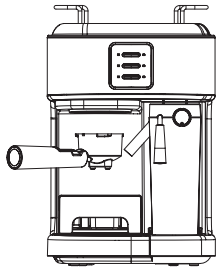
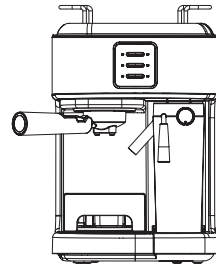

Рис. 3
Рис. 4
- **Attention! Before using the coffee maker for the first time remove the red rubber plug from the water tank (16).**
- Remove the water tank (16), fill it with cold water till the MAX mark and install it back to its place.
- Remove the milk tank (11), fill it with cold water till the MAX mark as well and install it back to its place.
- Select one of the coffee filters (20 or 21), and insert it into the holder (19), matching the ledge on the filter with the hole on the holder (19) and turn the filter clockwise/anticlockwise (pic. 1, 2).
- Install the filter holder into the coffee maker. Position the handle so that it aligns with the open lock symbol «» on the unit and goes into the groove (fig. 3), then turn the handle of the filter holder (17) to the right until bumping and until it aligns with the closed lock symbol «» (fig. 4, 5).